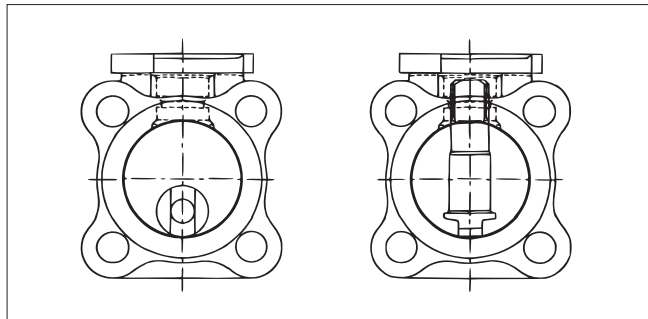

Figure 2.
1. With the valve swung to the out-of-line position, insert from the inside of the body a stem bearing (13), then a second stem bearing (24).
2. Insert the stem (4) horizontally into the body bore (threaded end first). The blade at the ball end of the stem must be vertical (see Figure 2). Guide the stem into the stem bore, being careful not to scratch the bearings.